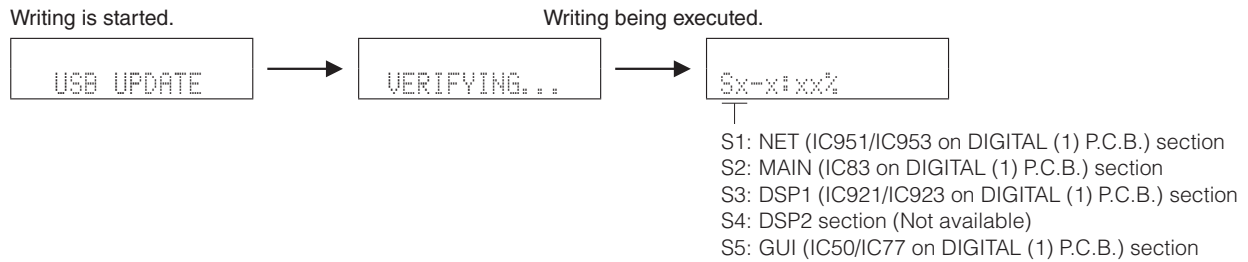

Fig. 2
3. The USB UPDATE mode is activated and “USB UPDATE” is displayed. Writing of the firmware starts automatically. (Fig. 2)